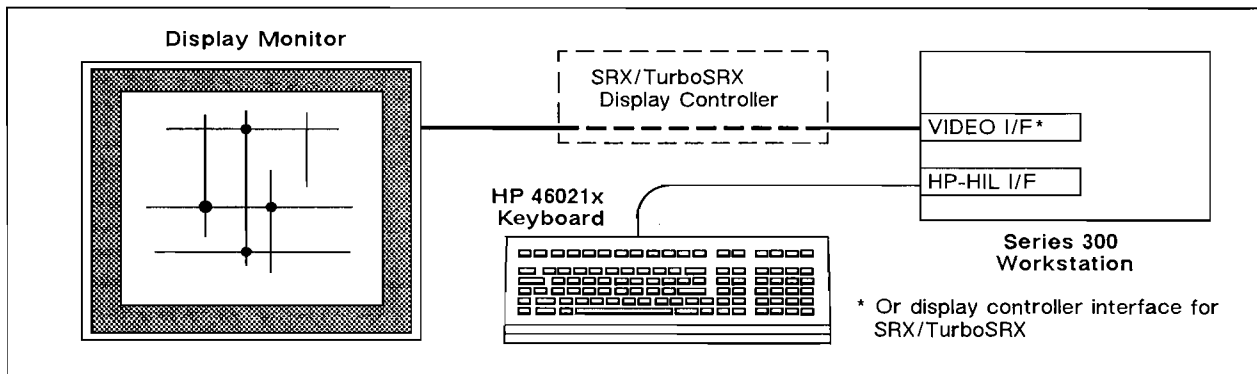
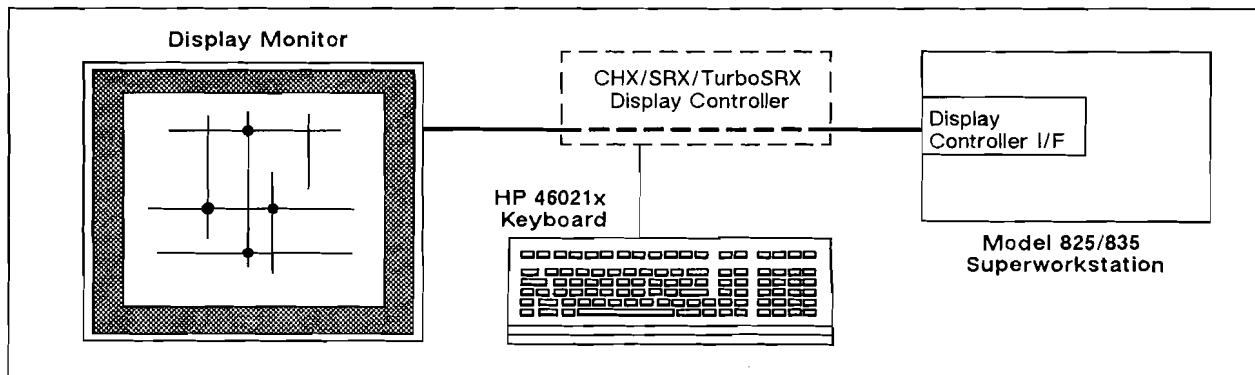

Figure 86. Display Monitor and Keyboard Connections to Series 300 Workstations
Figure 87. Display Monitor and Keyboard Connections to Model 825/835 Superworkstations
- Workstation Display Subsystem (see Table 14) and HP-HIL Keyboard (see Figure 86), below, and Figure 87 (next page).